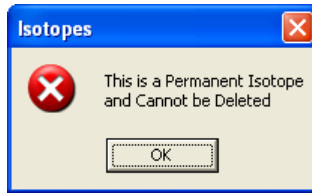

Figure 6-7
**Note:** If the selected isotope is in the system's permanent isotope database, the following error message will appear (Figure 6-7). Click the  button.